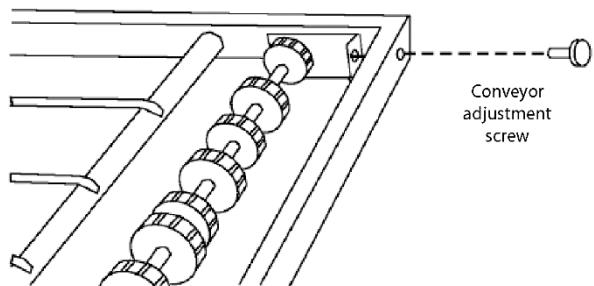

Figure 30. Disassembling the Idler Shaft
- c. Remove the two conveyor adjustment screws from the idler end of the conveyor frame, as shown in Figure 30.
- g. Reassemble the idler shaft into the conveyor. Make sure that the bronze bushing is in proper position. See Figure 30.
- h. Replace the conveyor adjustment screws as shown in Figure 30. To allow the conveyor belt to be reinstalled later, do not tighten the screws at this time.
- m. Reassemble the drive shaft into the conveyor. See Figure 30.